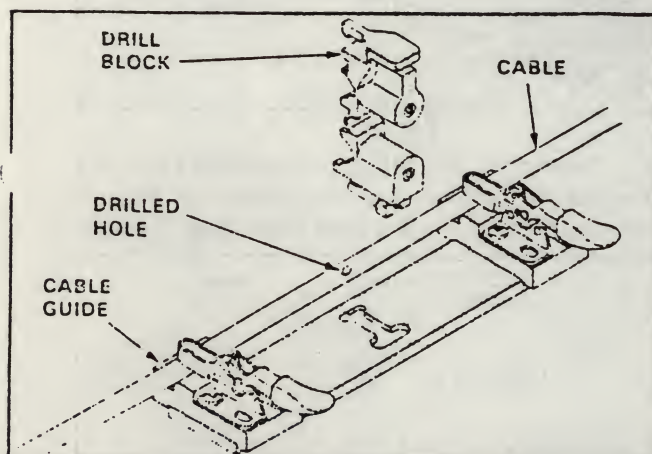

Fig. 8
7. Remove drill block from base plate. Do NOT remove cable guide from cable. See Figure 8.